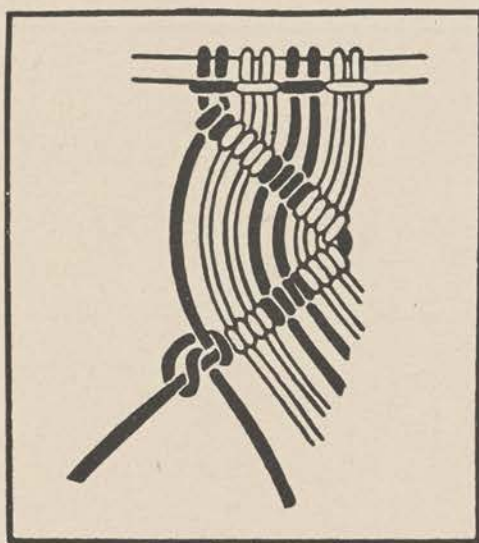

Figure 162.
c. When half hitching is done with a number of strands, one of the outer ones is generally used as the core, and each of the other strands is half hitched over it in succession (fig. 162). The same method is used in combining half hitching with square knotting.